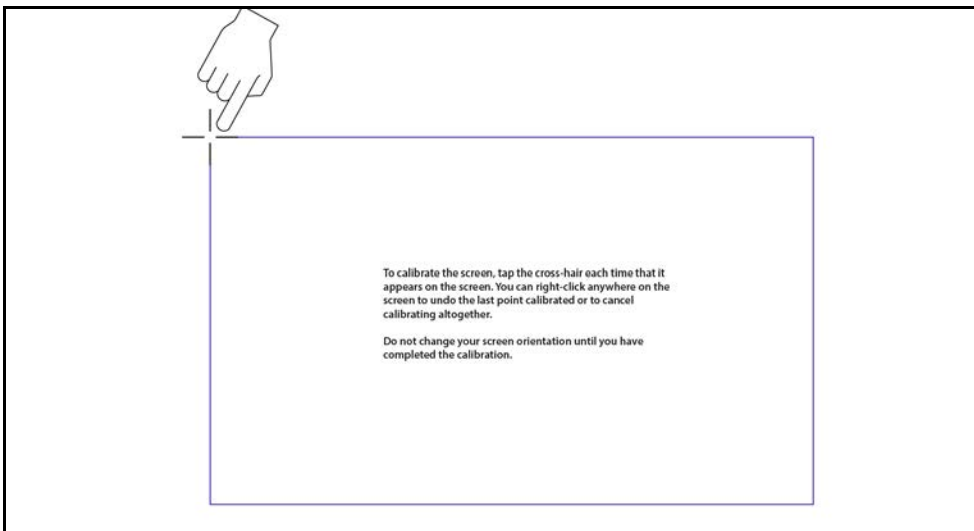

Figure 1-16 *Calibrating the Touch Screen*
The Calibration screen is displayed (*Figure 1-16*).
4. Using the stylus, follow the screen prompts and tap on the center of the cross-hairs as they appear at each corner on the screen (*Figure 1-16*).**NOTE**